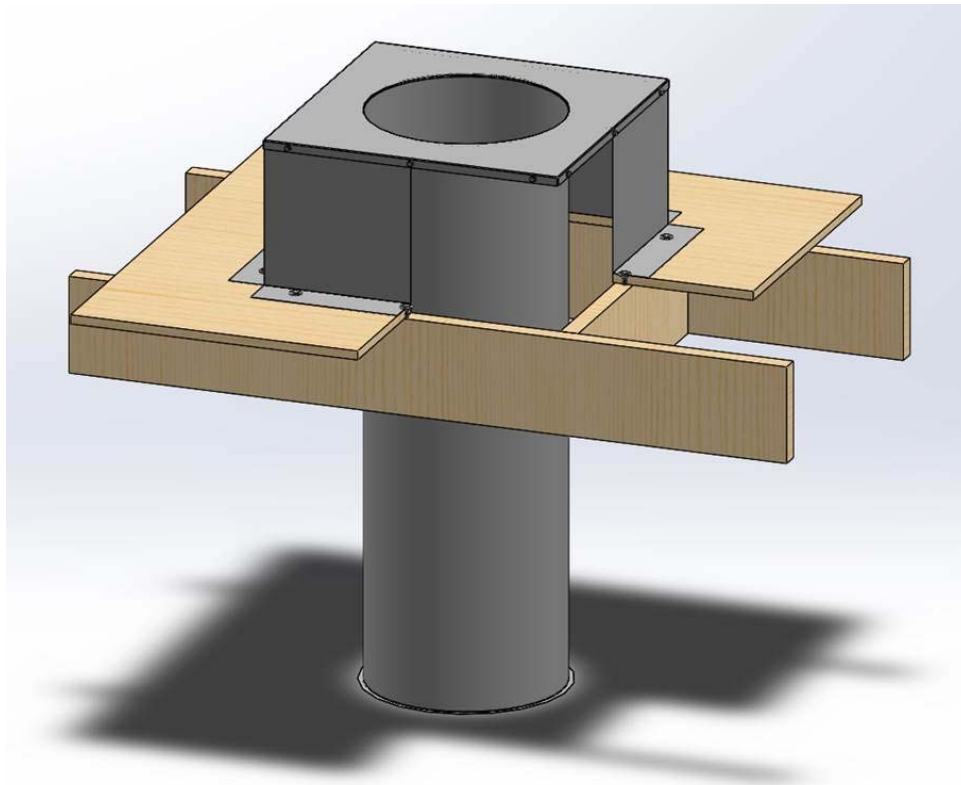

Figure 5. Curb Vertical Supports
C. CURB VERTICAL SUPPORTS – Use the curb vertical support assembly (see Figure 5) supplied by the duct manufacturer and consisting of a min.